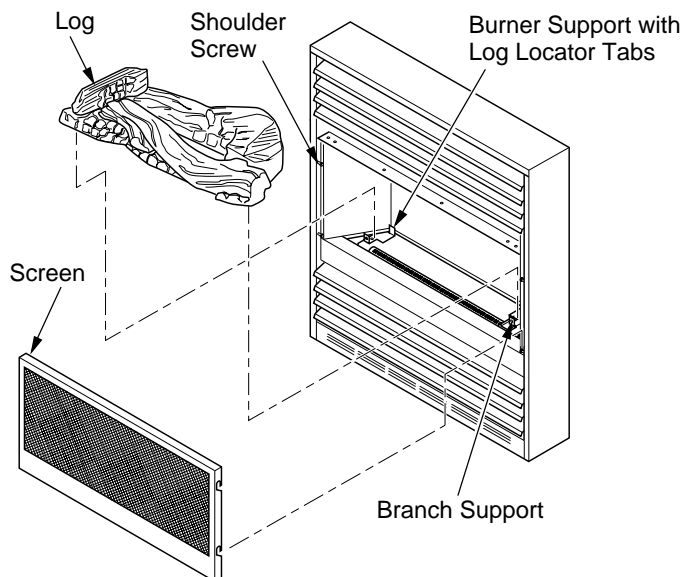

Figure 3 - Assembling Fireplace
4. Remove log packaging material and discard packaging. Gently place log set on burner support (see Figure 3). The log should fit flat against top of burner support and log locator tabs fit into the slots under the log. Do not allow log to contact flame. If flame contacts log, soot will be created.